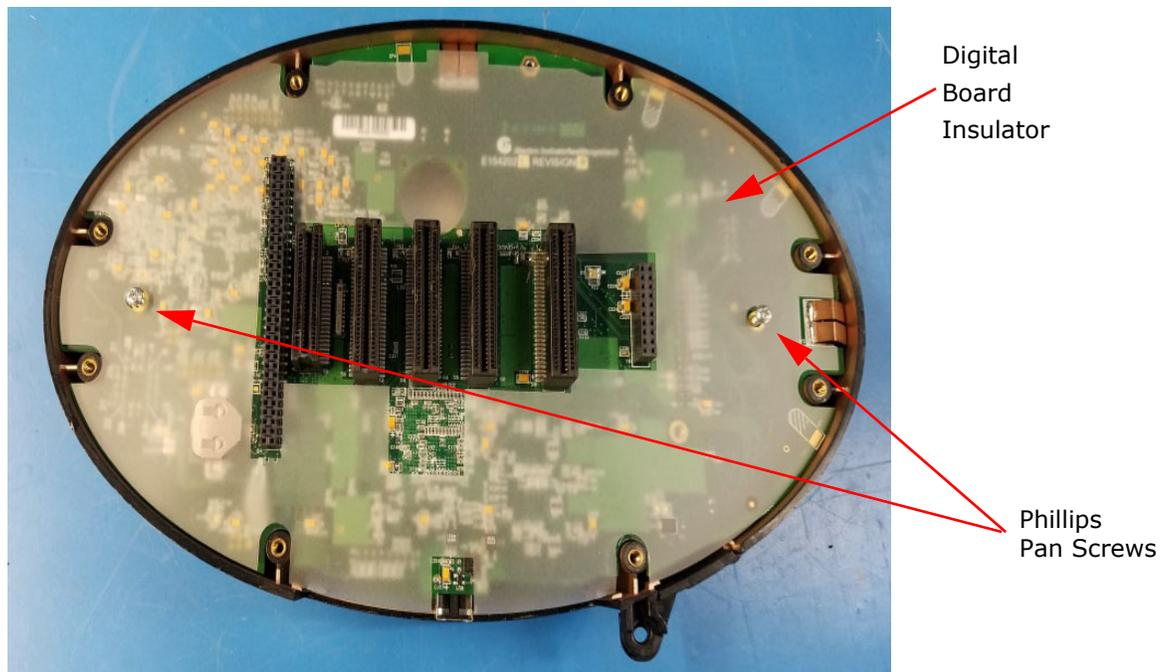

Figure 3.7: Inside of Meter Showing the Digital Board Insulator
4. Remove the digital board insulator - see Figure 3.7.
5. Remove the two Phillips pan screws used to mount the digital board on the front panel. See Figure 3.7